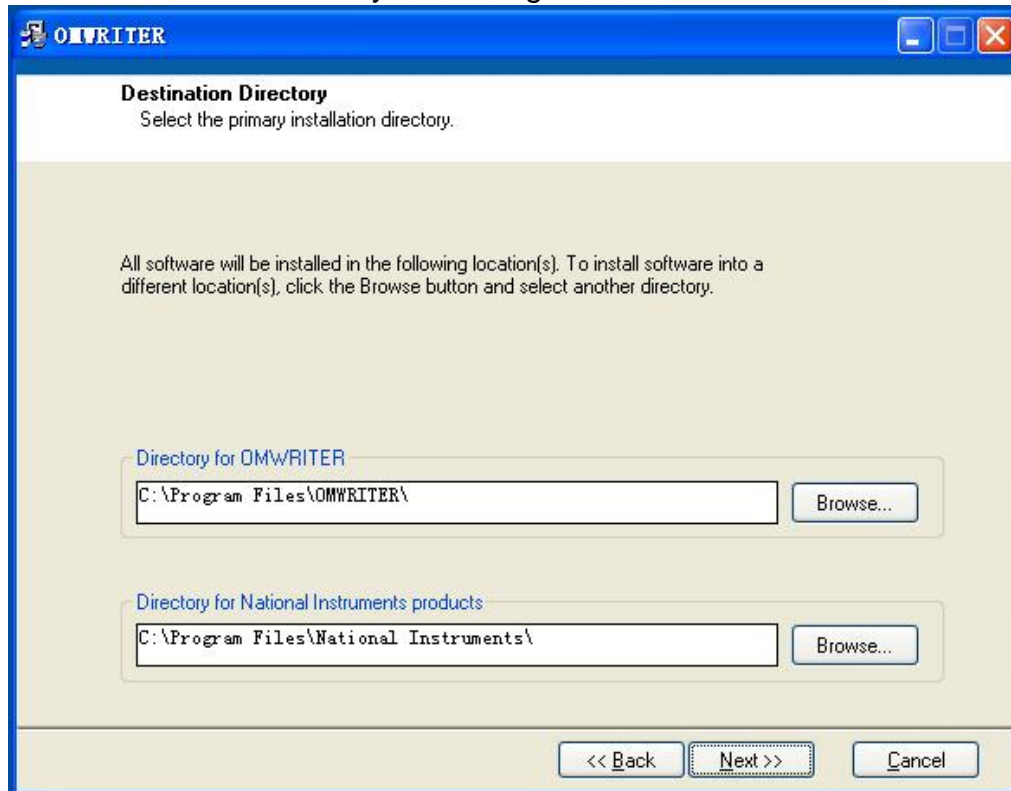

Figure 2
8. In the OMWRITER dialog box (Figure 2), we recommend that you use the